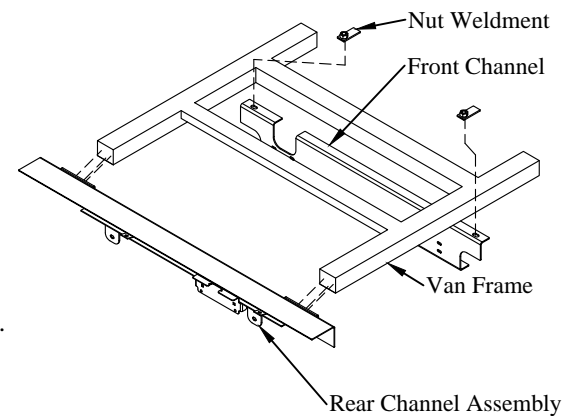

Figure 8: Front and rear channel assembly locations.
- 8. Install** the front channel assembly on the van frame (Figure 8). Use the two (2) supplied 5/8" x 1-1/2" bolts and nut weldments.
- 9. Install** the rear channel assembly on the rear of the van frame (Figure 8). Use the two (2) supplied 3/8" bolts, flat washers, lock washers, and nuts in the bottom holes. Use the four (4) vehicle bumper (or supplied M10) bolts on the top holes.